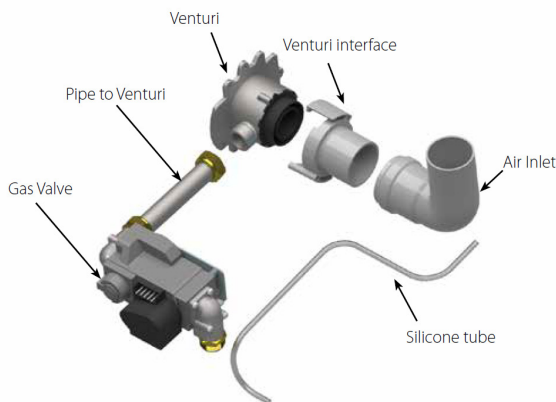

Fig. 1: Instinct 110 Gas Train
1. To access the Installer screen, touching simultaneously the up and down soft keys for 3 seconds as shown in Fig. 1.